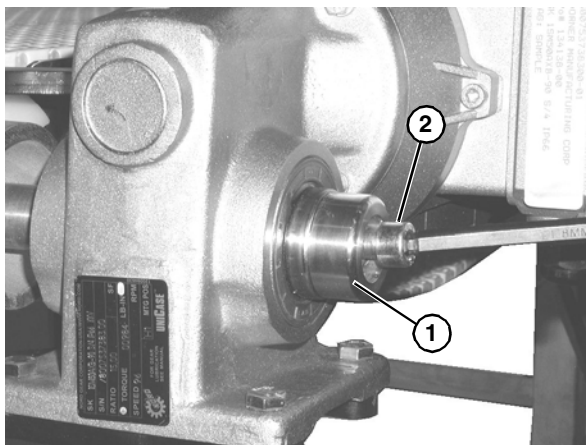

Figure 15
5. Attach the bore plug (**Figure 15, item 1**) and tighten the socket head screw (**Figure 15, item 2**). Snap cover onto bore plug (**Figure 15, item 1**).